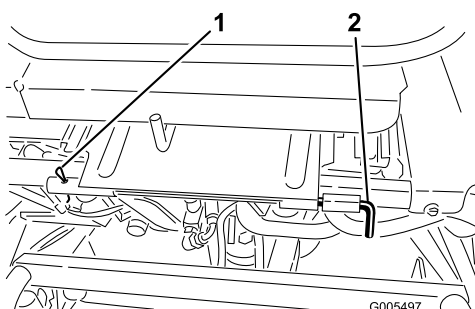

Figure 37
3. Lower the seat and remove the cotter pin securing the seat pivot rod to the frame (Figure 37).